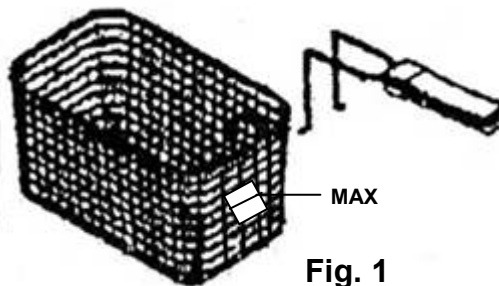

Fig. 1
- Use basket handle (#15) to remove the frying basket (#14). Always make sure the basket handle is securely attached to the basket. To attach the handle to the frying basket, insert the metal part of the handle inside the metal bracket on the frying basket. (Fig. 1)